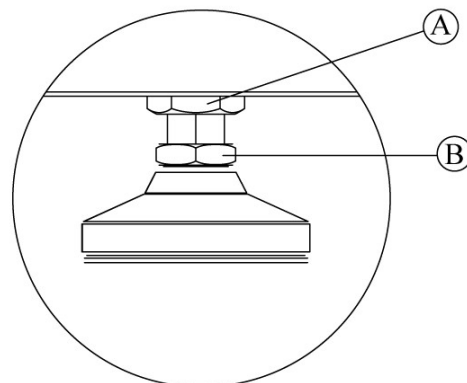

Fig. 12-2
- Using a 15/16 inch open end wrench, loosen nut A on Right Rear Foot (only side adjustable). Fig. 12-2